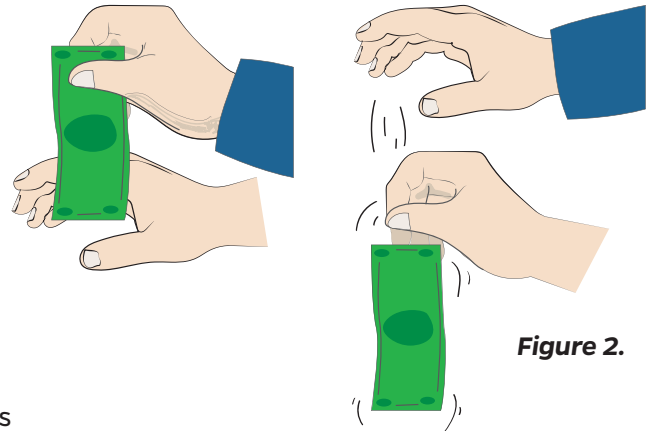

Figure 2.
- The person dropping the dollar bill (the dropper) should hold the bill vertically and long-ways between his/her thumb and index finger at one end of the bill and position the bill so that its mid-point is even with the catcher's open thumb and index finger (see Figure 2).